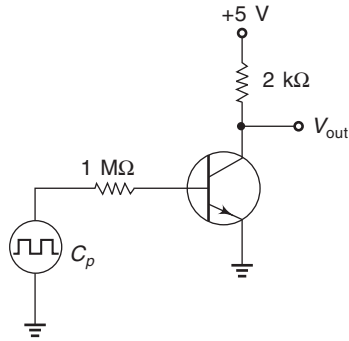

Fig. 7.36
7.29 Sketch the waveform at V_{out} in the circuit shown, given the input signal C_p . (See Fig. 7.36)